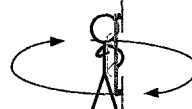

Fig.2
4. (Fig.2) Hold your Multi-rotor vertically and rotate it (its nose is downward) around the gravitational force line (about 360°) until the LED turns off, meaning the calibration is finished.